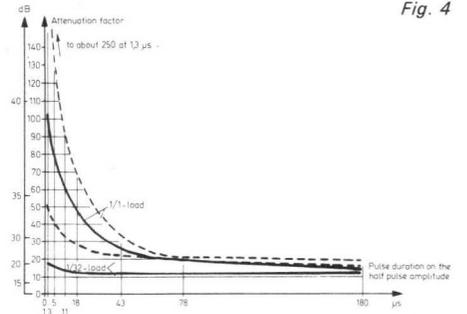

Fig. 4
N.B. Very latest research has shown that for rise times of less than 1.3 μ s the attenuation factor is > 100, with the winding connected, and > 250 when disconnected. See fig. 4.